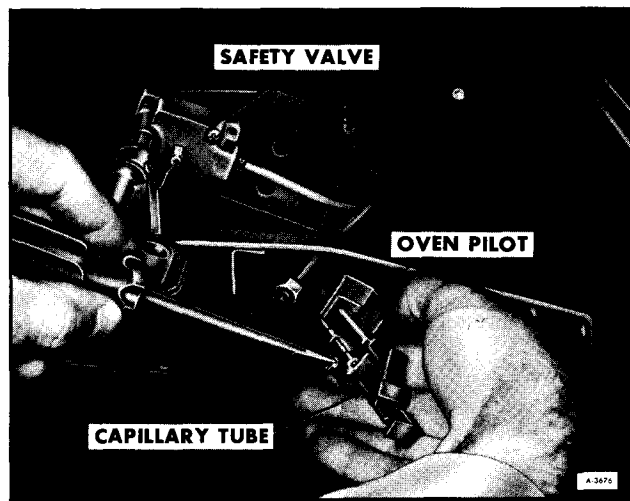

Figure 19—Removing Capillary Tube Retaining Screw
5. Carefully remove capillary tube from oven pilot (figure 19).